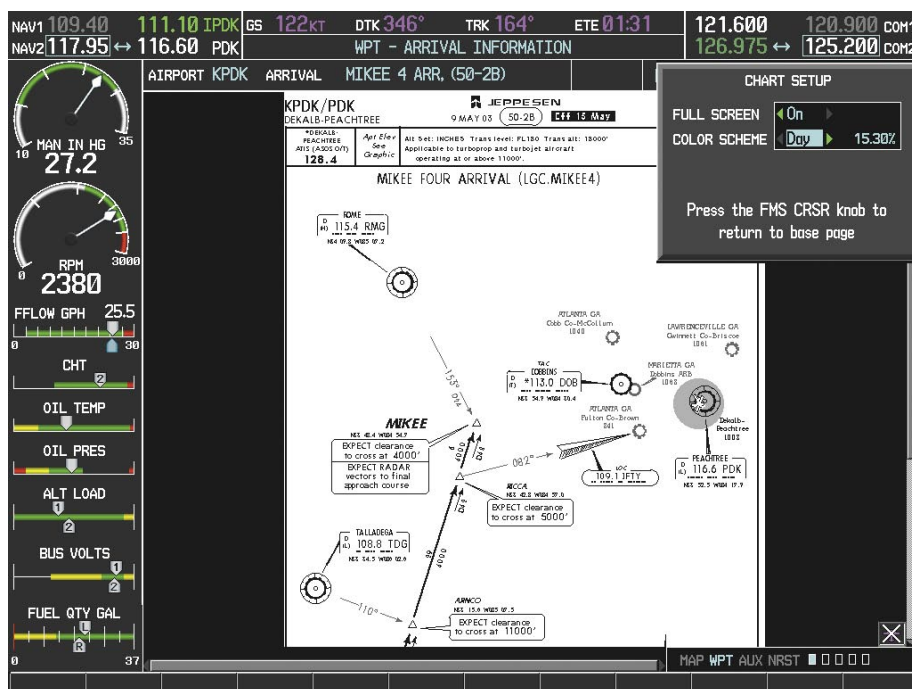

Figure 8-30 Arrival Information Page, Day View
- 3) Turn the large **FMS** Knob to move to the COLOR SCHEME Option (Figure 8-30).